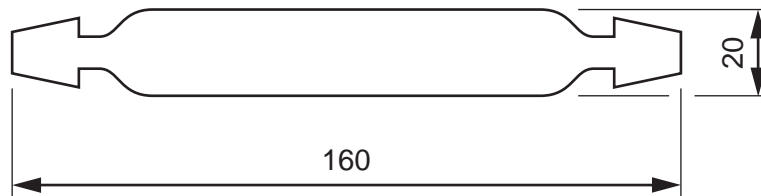

Fig. 4
- (b) Fig. 4 shows the handle that will be attached to the top of the folder. The handle will be made from 1 mm thick sheet plastic.